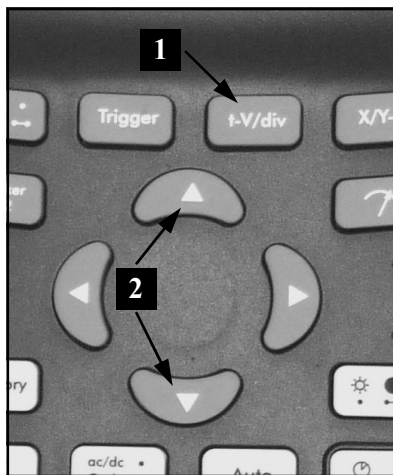
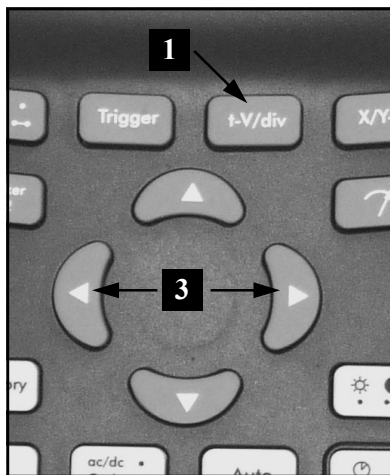

Fig 40
Fig 41
First press the „t-V/div“ key (1), use up/down cursorkeys (2) for changing the input sensitivity (V/div) (Fig 40). Press the left/right (3) cursorkeys for changing the timebase (time/div). (Fig 41)
1. Changing Volt/div (Fig. 40):
2. Changing the timebase (fig. 41):